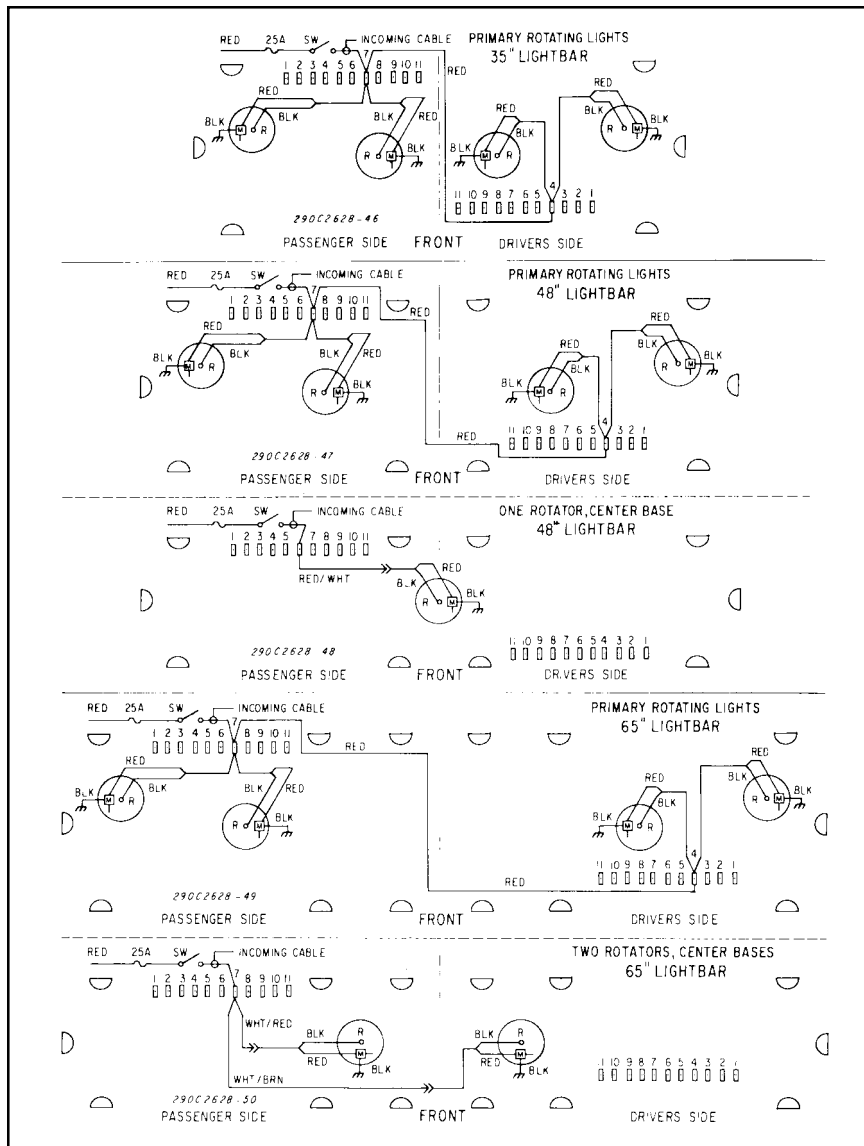

Figure 6.
2. See the applicable wiring diagram in figure 6. Attach the female terminal on the rotating light assembly's red and black wires to the appropriate terminal of the molded-in terminal strip.